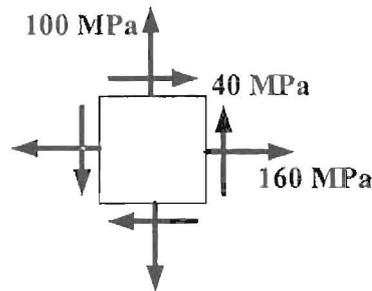

Fig. P3
3. The given state of plane strain as shown in Fig. P3 is known to exist at a point in an elastic medium. Given that $E = 200 \text{ GPa}$, $\nu = 0.3$, determine the principal stresses and strains. (12%)